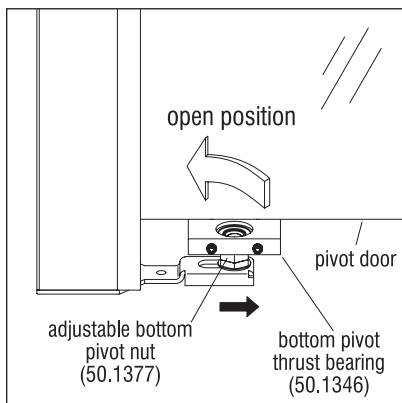

Figure 5 - Open Position
4. Moving the bottom door thrust bearing and pivot nut approximately 1/4" toward the center of the door will make the door swing open under its own weight (Figure 5).